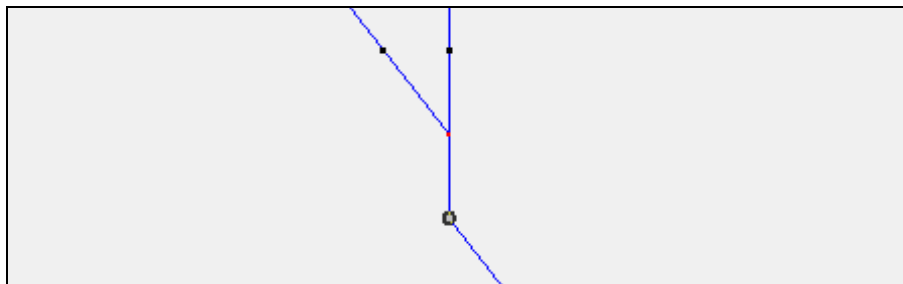

Figure 10 Select the vertex just below the junction
13. Using the **Select Feature Vertex**  tool, select the vertex just below the main branching point (Figure 10).